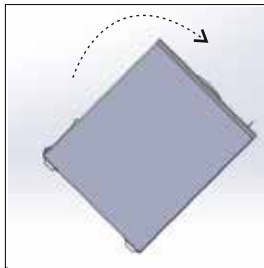
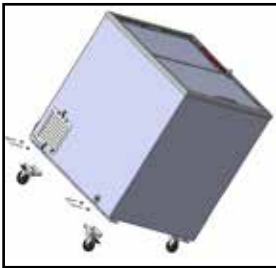

Fig. 2
Fig. 4
• Place your appliance as shown in Figure 2. Then, mount two castors with brakes in the to the back side of the container, by fixing the castors in the sockets under the container and ensure that the socket centers are aligned, as shown in figure 4. Then place the U-pins through the holes. Ensure the stability by placing the pim wedges.